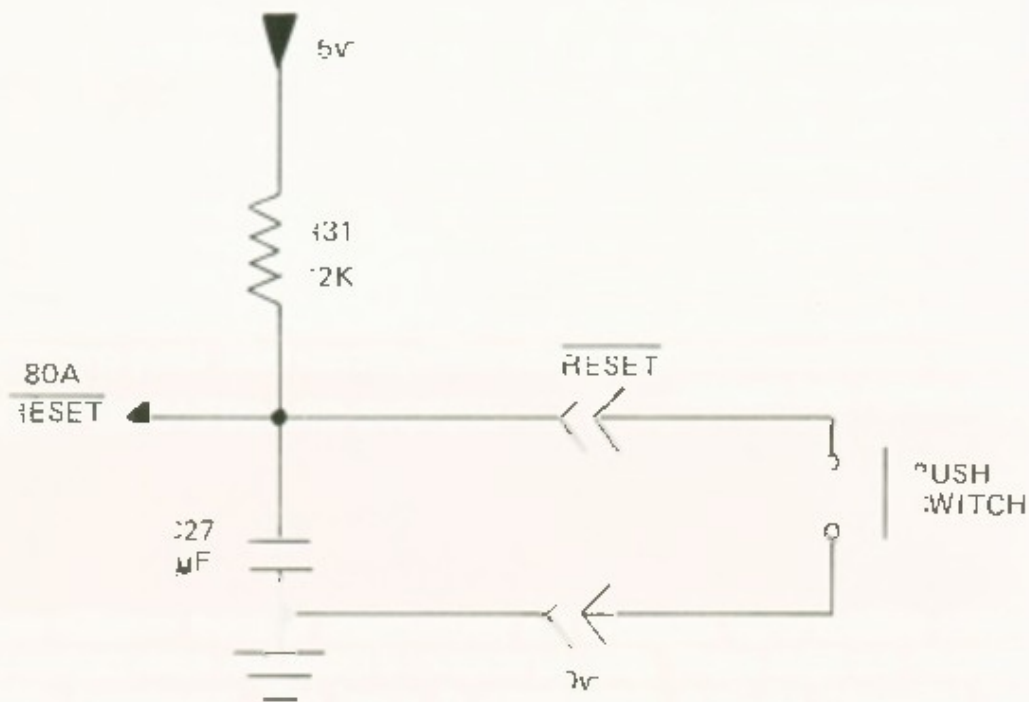

FIG 10b - RESET SWITCH ADDITION
**10B RESET** connected to the Z80A reset pin. This line is provided with a simple RC delay, at power on, to allow the whole computer to reach an operational state before the CPU tries to do anything. A simple **RESET** button can be connected between this pin and 0 volts (see fig 10b). When this switch is operated the CPU will reset in the same way as at power on. The difference is that you do not have to disconnect the power supply and then reconnect it. A **RESET** switch would be extremely useful to anyone who replaces the **BASIC** ROM with a machine code monitor, because memory would not then be erased whenever a reset had to be performed.
The circuit is illustrated in fig 10b. You simply connect a push button between  $\overline{\text{RESET}}$  and 0v on the edge connector. When you press the button the RESET line is pulled down to 0v to reset the Z80A. Upon releasing the button, C27 charges via R31 until the voltage reaches logic 1 level. The Z80A then starts to run the machine code program starting from address 0 (usually in the Sinclair ROM). Using this button simulates a "power on reset" and consequently programs which were in the memory are deleted.